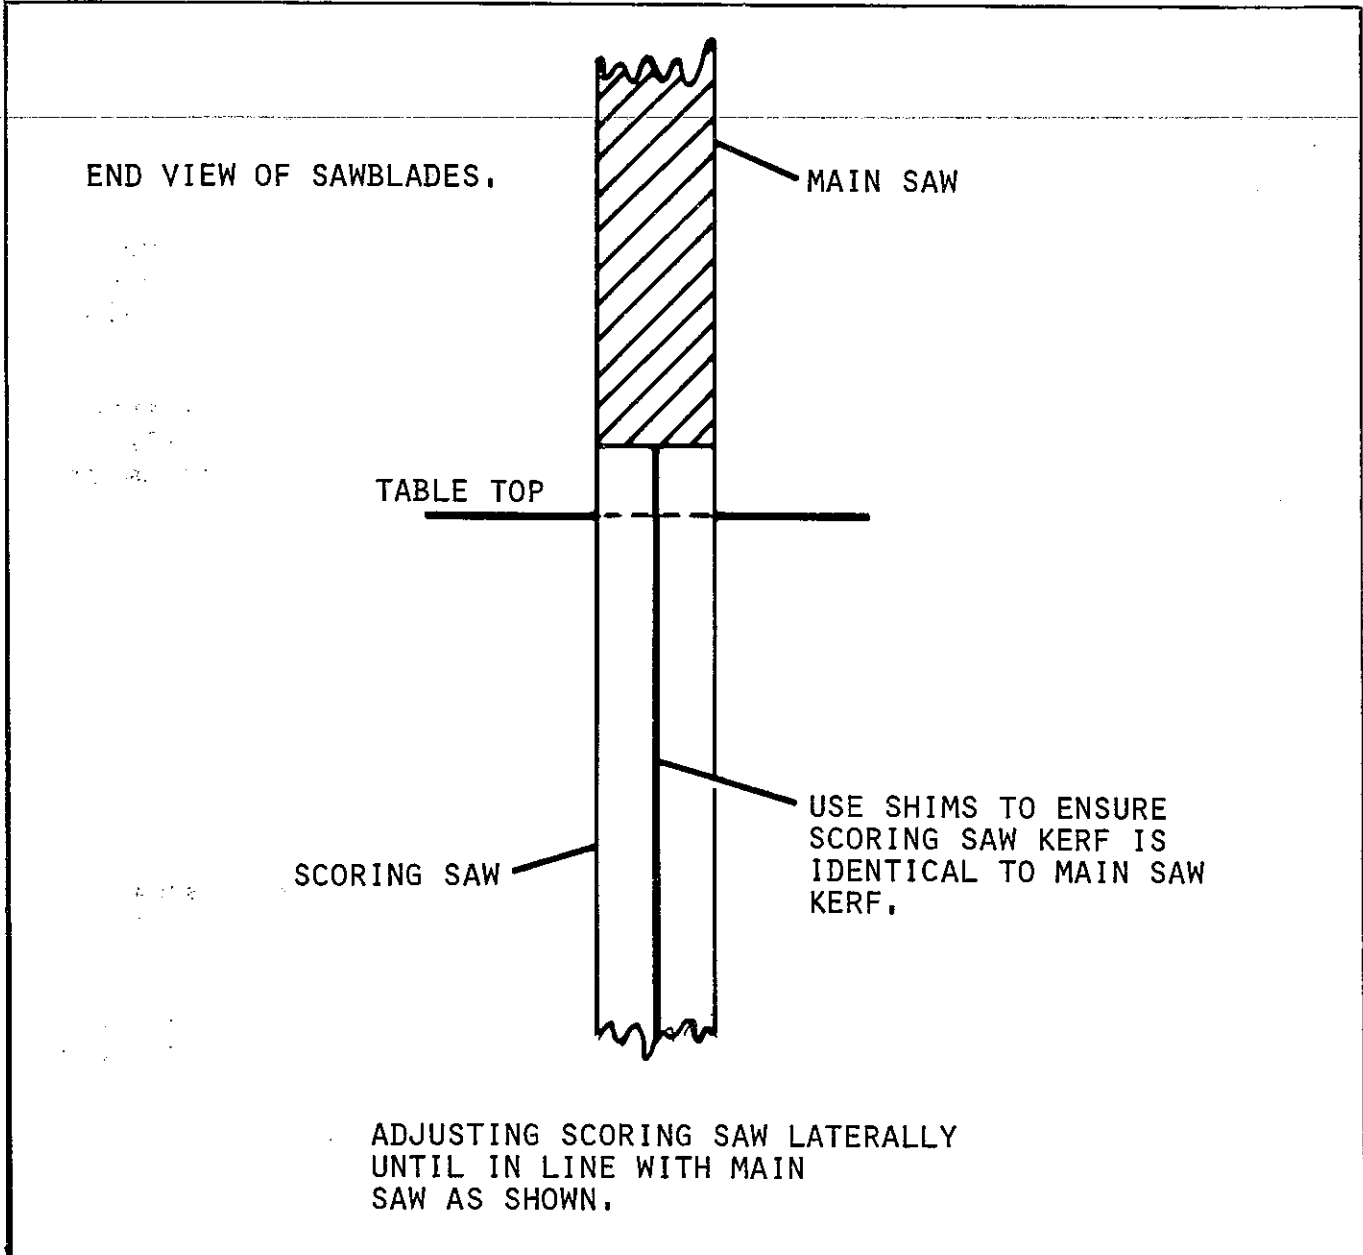

FIG.33.
5. Fit scoring saw with teeth pointing towards rear of machine, FIG.31. NOTE: See FIG.33, for use of shims as fitted between scoring saw blades for correct kerf alignment.
5. Proceed to take trial cuts to establish the accuracy of your approximate alignment of the scoring blade with main blade. The correct alignment is shown in FIG.33.